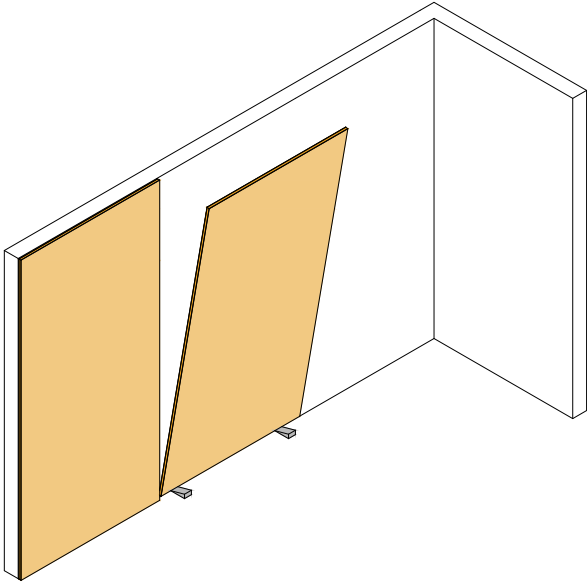

FIGURE 8: Positioning the panel
9. Position the panel next to the wall, place two wooden shims on the floor, rest the panel on them up to the ceiling and push them into place. (fig. 8)